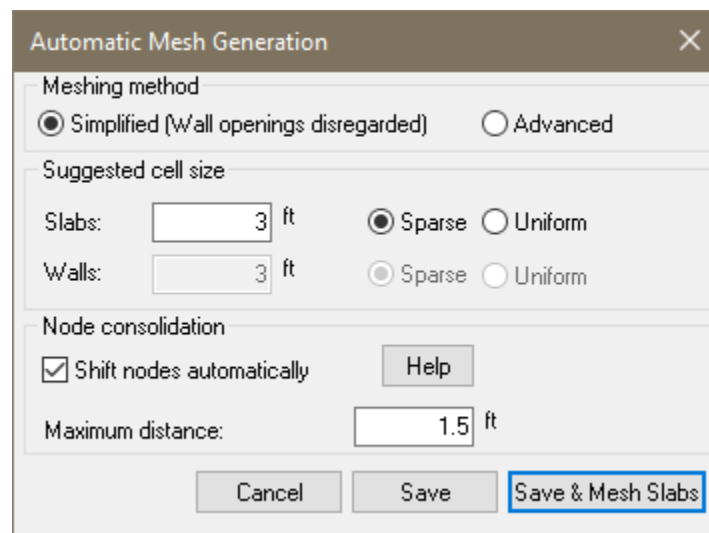

Figure 6-2
- Go to *Analysis* → *Meshing* and click on the *Mesh Generation*  icon. This will bring up the Automatic Mesh Generation window as shown in **FIGURE 6-2**.